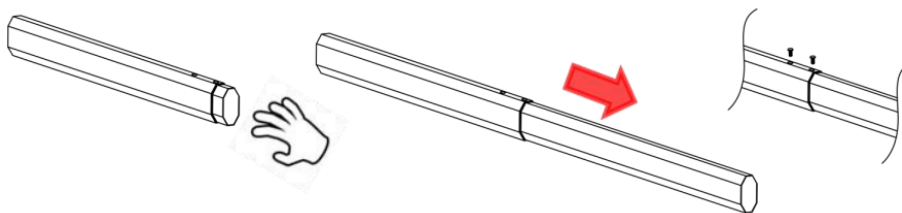

Figure 1 Connect the main boom with the vice together by 2 screws
1. Pull the vice boom out from the main boom and install them with the two screws, as shown in Figure 1.